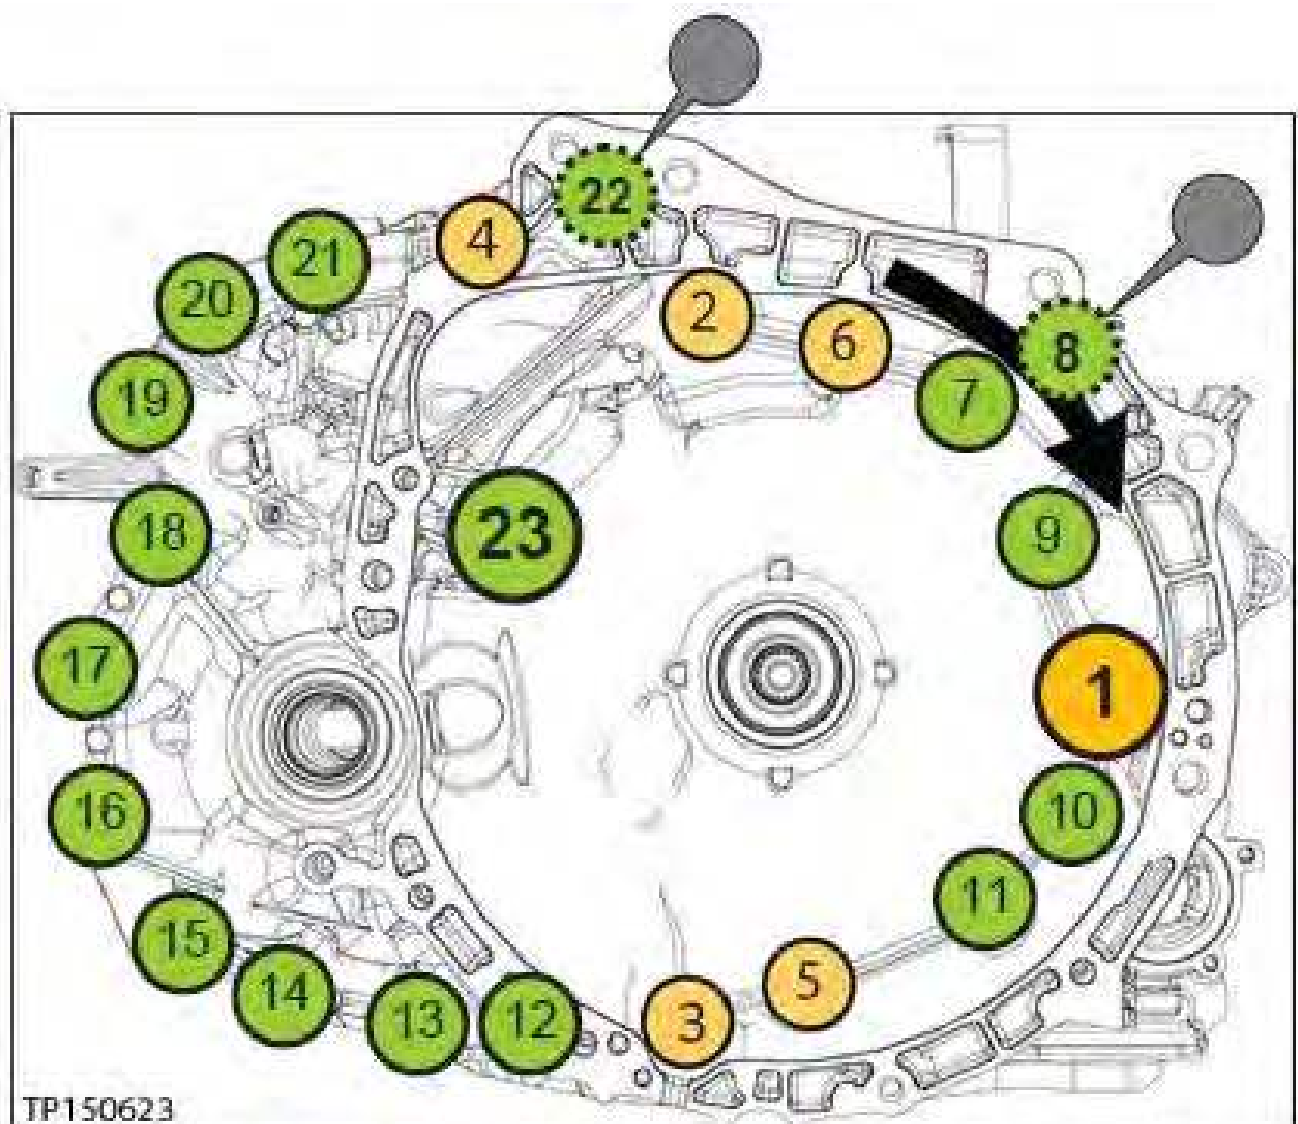

Figure 17I
16. Install the converter housing onto the CVT case (see Figure 17I for torque sequence):
- Install new bolts (23).
- a. Torque the first six (6) bolts with symbol  in numbered sequence (see below).
IMPORTANT: Make sure to torque the bolts in the sequence shown (Figure 17I).